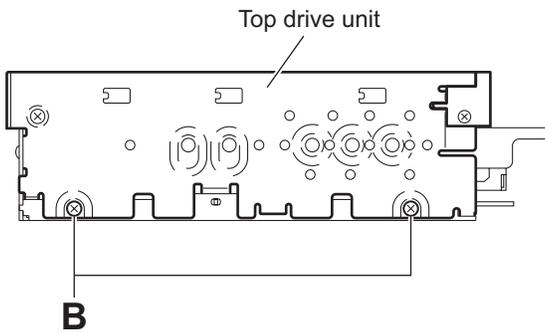

Fig.5
### 3.1.3 Removing the top drive unit (See Figs.5 to 8)
- (1) From the both sides of the main body, remove the four screws **B** attaching the top drive unit. (See Figs.5 and 6.)